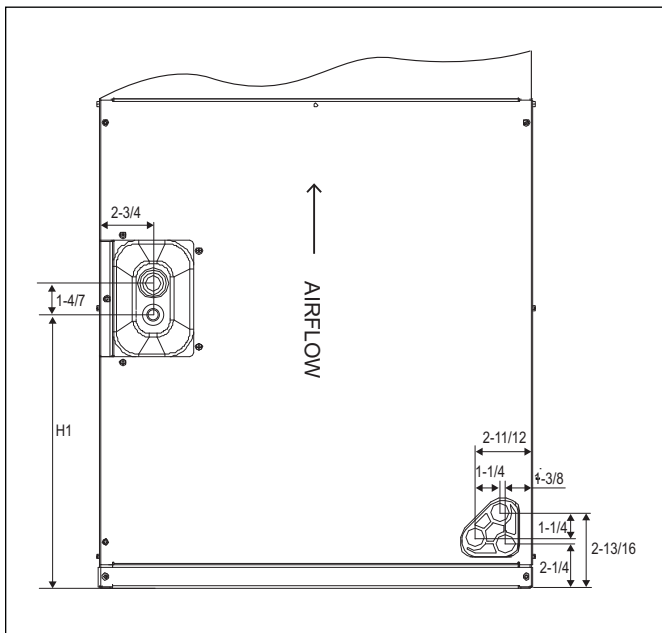

Figure 9 Dimensions For Air Handler (Coil Section)
**i** Torque applied to drain connections should not exceed 15 ft.lbs. For vertical upflow and horizontal right installations, dimensions for refrigerant and drain pipes may be found in Figure 9.